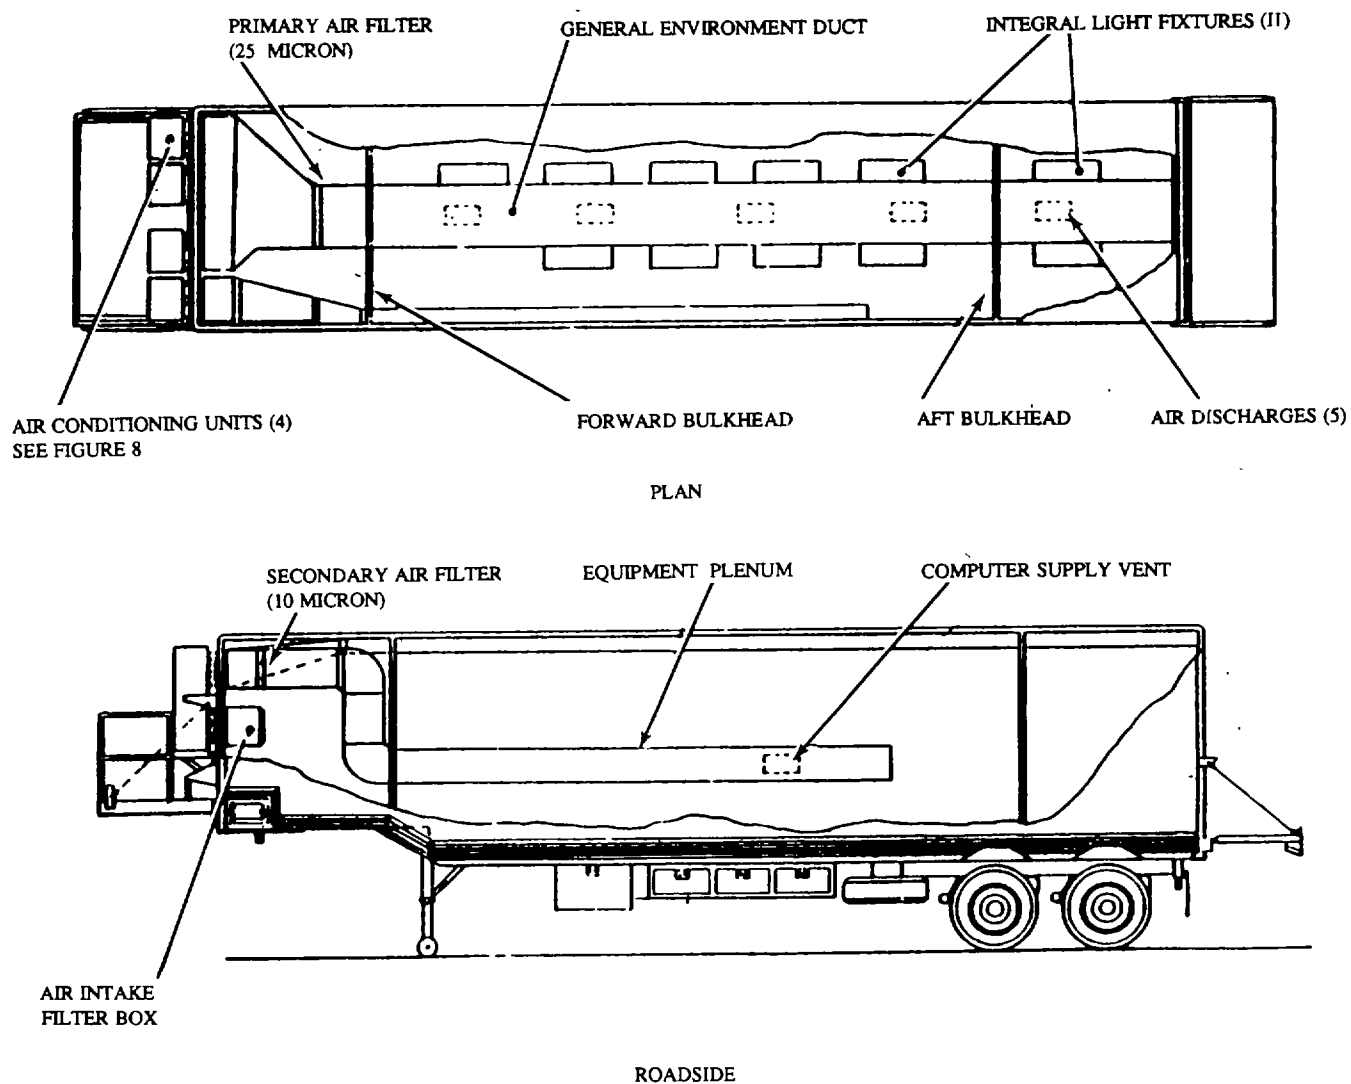

Figure 1-7. Air Distribution System
f. *Air System (Figure 1-7).* The air system consists of the air compressor, air tank, pressure switch, moisture trap, and associated piping and valves. The air compressor is located in the mechanical room and operates on 208V, 60Hz, 3-phase power. It can supply air at 120 psi to the system. In automatic operation, the compressor is controlled by a pressure switch which shuts it off when the pressure has reached 120 psi and turns it back on when the pressure in the system drops to 60 psi. The air tank relief valve is set to operate at 150 psi. There are air service valves located within the main laboratory work area and are color coded orange.